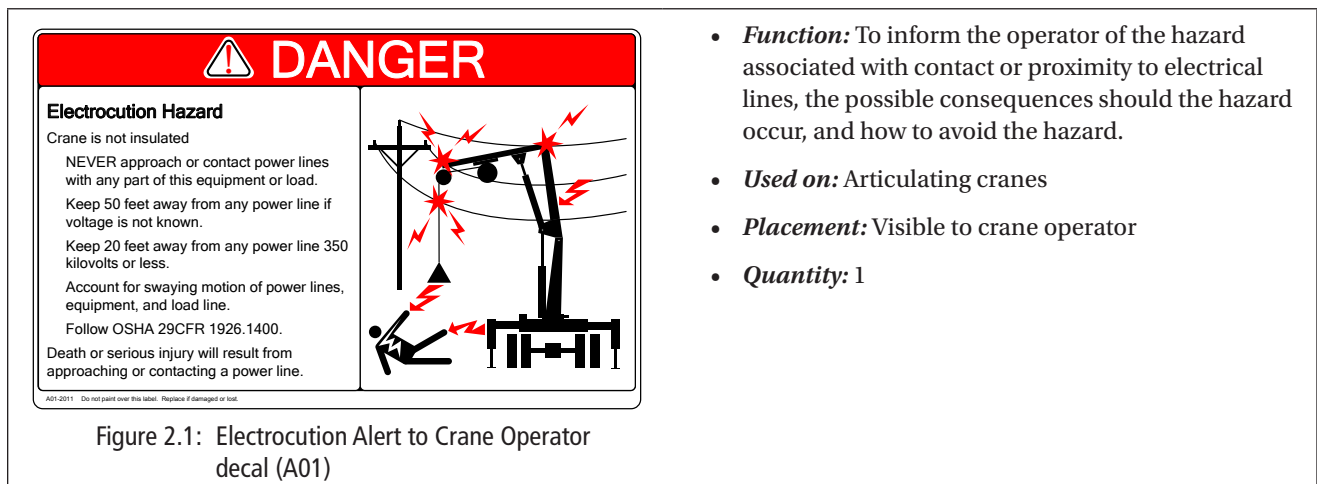

Figure 2.1: Electrocutation Alert to Crane Operator decal (A01)
- A high-voltage minimum-clearance sign must be visible to the operator while at the operator's station (Figure 2.1); this decal indicates the minimum 10 ft. clearance for lines under 50 kV as well as the minimum for higher voltages (as specified in OSHA 1926.1407 through 1926.1411).